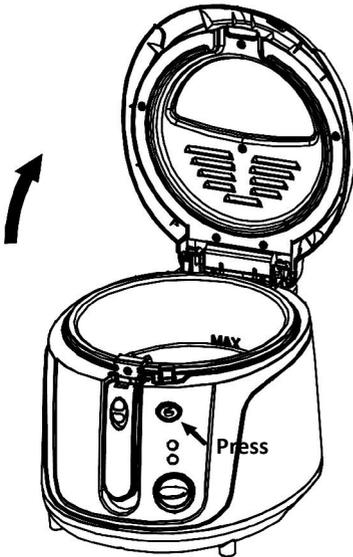
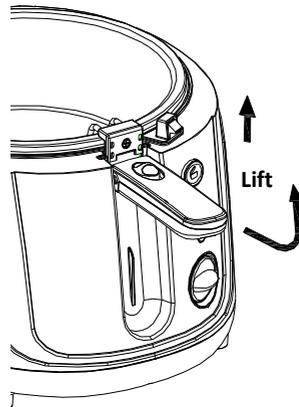

Fig. 1
Fig. 2
- How to open and close the lid – See fig. 1
- How to open and fold the frying basket handle – See figs. 2 & 8
1. Press the lid release button to open the lid (fig.1), lift the handle of the frying basket (fig. 2) and lift out the basket. Clean thoroughly before use. Check that the lid is securely fitted after cleaning.